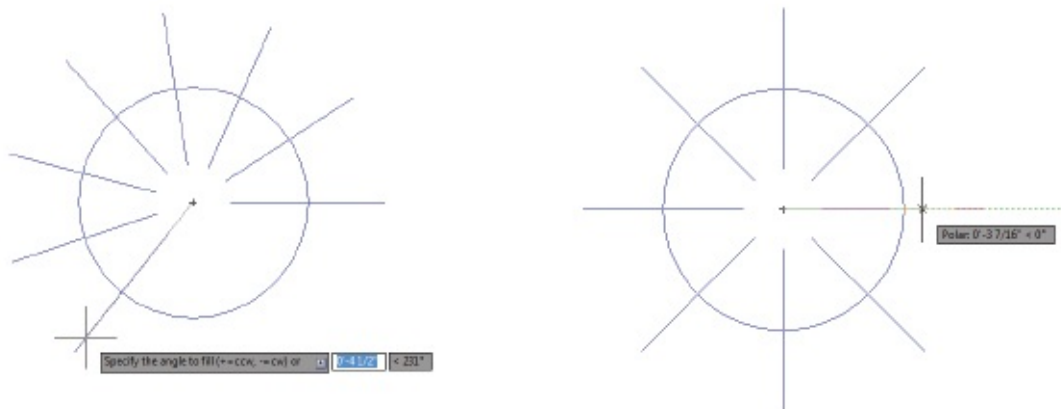

FIGURE 6.4 The lines evenly spaced in a polar array
6. At the **Enter number of items in array or [Expression]:** prompt, enter **8** \leftarrow . The lines appear evenly spaced in a circular array (see Figure 6.4).
7. Press \leftarrow to exit the Arraypolar command, or if Dynamic Input is on, choose eXit from the menu that appears at the cursor. Your drawing should look like Figure 6.4.